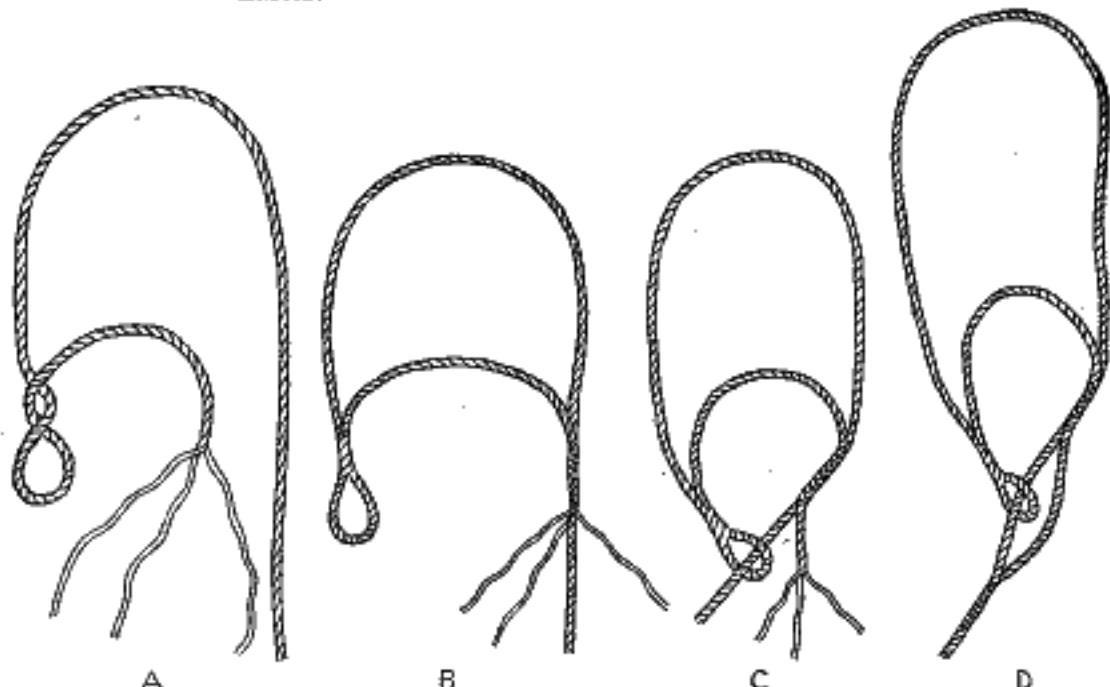

FIG. 354.—A nonadjustable halter with guard loop.
**413. A nonadjustable halter with guard loop**, illustrated in Fig. 354, is a good type of permanent halter. The guard loop prevents the halter from loosening or tightening beyond a certain amount. After the first side splice is made (*B*, Fig. 354) the strands are re-laid for a distance of 5 or 6 in., and a final side splice is made.